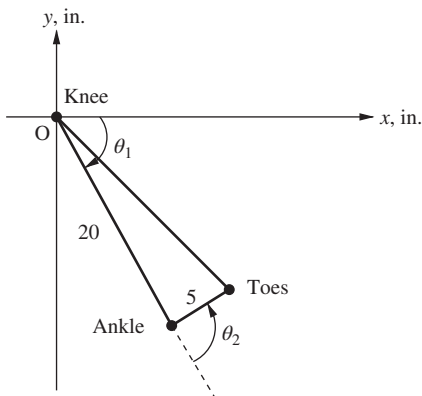

Figure P3.35 Ankle-up position of the leg.
3-35. Consider the position of the toes of a person sitting in a chair as shown in Fig. P3.35.
- Now suppose that the leg is positioned such that the tip of the toes is located in the fourth quadrant and oriented in the ankle-up position (counterclockwise direction) as shown Fig P3.35. If the end of the toes is located at $P(x, y) = (14.33 \text{ in.}, -19.82 \text{ in.})$, determine the values of θ_1 and θ_2 .